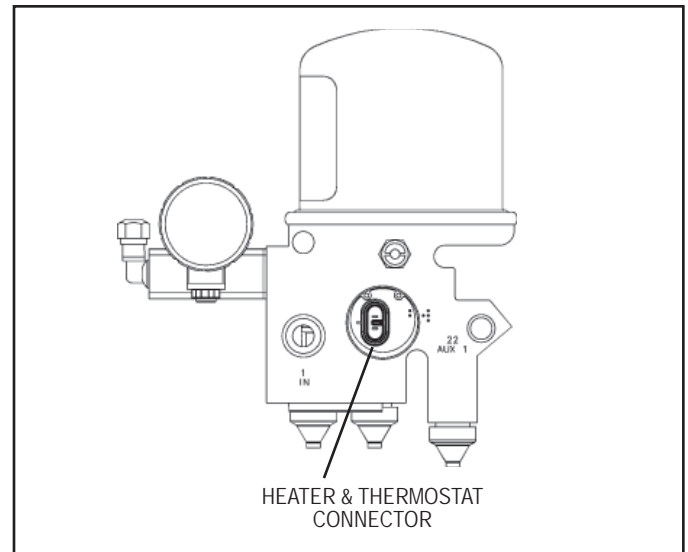

FIGURE 3 - AD-IS® AIR DRYER HEATER AND THERMOSTAT CONNECTOR
**B. Thermostat and Heater Operation (Refer to Figure 3).** NOTE: These tests can only be conducted during cold weather operation. Turn off the ignition switch and cool the thermostat and heater assembly to below 40 degrees Fahrenheit. Using an ohmmeter, check the resistance between the electrical pins in the air dryer connector half. The resistance should be 1.5 to 3.0 ohms for the 12 volt heater assembly and 6.0 to 9.0 ohms for the 24 volt heater assembly. Warm the thermostat and heater assembly to approximately 90 degrees Fahrenheit and again check the resistance. The resistance should exceed 1000 ohms. If the resistance values obtained are within the stated limits, the thermostat and heater assembly is operating properly. If the resistance values obtained are outside the stated limits, replace the heater and thermostat assembly.